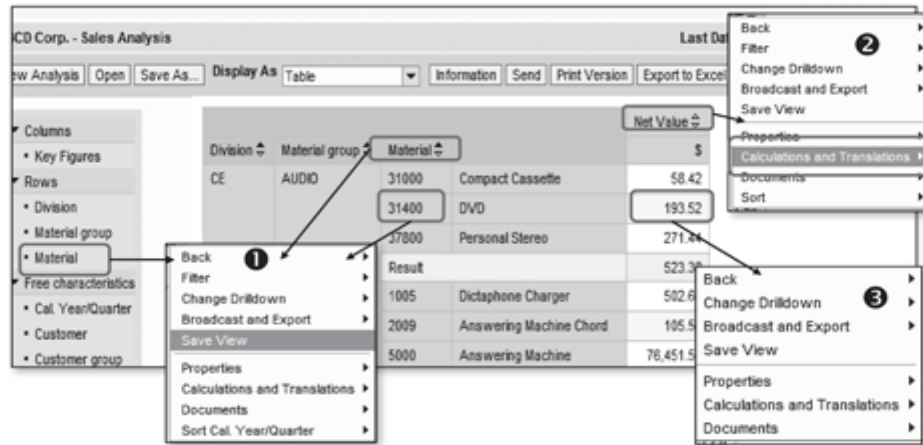

Figure 10.48 BEx Web Analyzer Context Menu Functions
Using BEx web analyzer, you can navigate through data (using drilldown, filters, changing the layout, calculating key figures in a different way, etc.) to analyze it from various perspectives. These navigations can be performed via drag and drop or via context menu options. Similar to BEx analyzer, context menu functions are available for query elements in the navigation pane (❶ of Figure 10.48), characteristic column headers (❶), specific characteristic values (❶), key figure headers (❷), and specific key figure values (❸). Drag and drop can also be used to navigate through data, which makes analysis very easy (minimizing the number of mouse clicks) and very interactive.